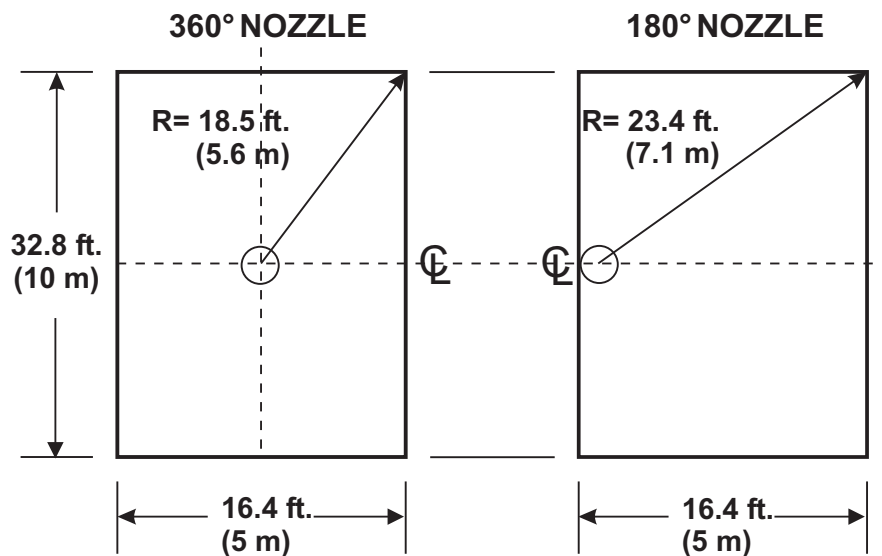

Figure 4-3. Nozzle Placement and Coverage
180° nozzles have a maximum coverage area defined as any rectangle that can be inscribed within a semicircle of distance 23.4 ft. (7.1 m), i.e., the diagonal of a rectangle that is 16.4 ft. x 16.4 ft. Refer to Figure 4-3.
- 360° Nozzles - 360° nozzles must be located as close to the center of the enclosure (or subdivision thereof) as possible. 360° nozzles have a maximum coverage area defined as any rectangle that can be inscribed in a circle radius 18.5 ft. (5.6 m), i.e., the diagonal of a rectangle 16.4 ft. x 8.2 ft.). Refer to Figure 4-3.